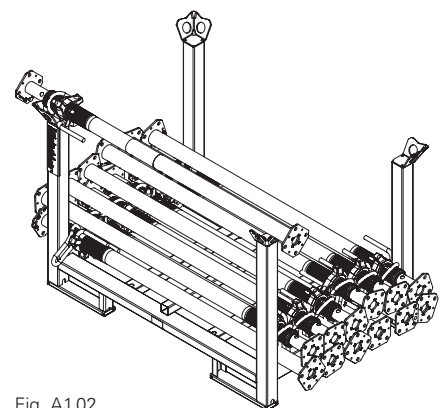

Fig. A1.02
Place the Slab Prop (1) on a Pallet-2 RP for pre-assembly. (Fig. A1.02)